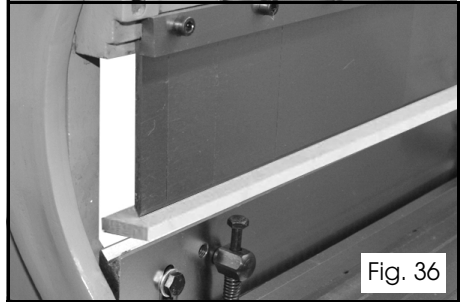

Fig. 36
- Place a thin piece of wood on the finger receiver, as shown in Figure 36, then reinstall the fingers so that they rest on the wood. Make sure the tops of the fingers are between the gib and the casting.